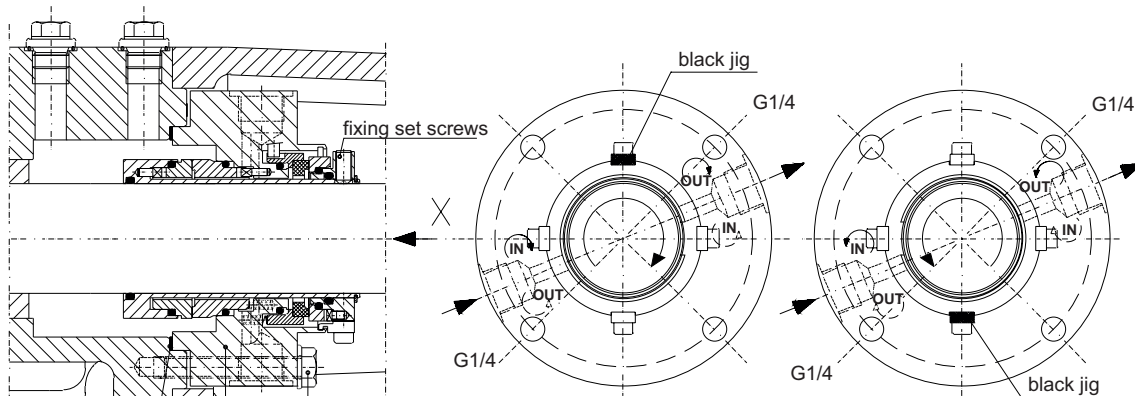

Fig DN3 – View on arrow X
1. Position the cartridge according to fig DN3.